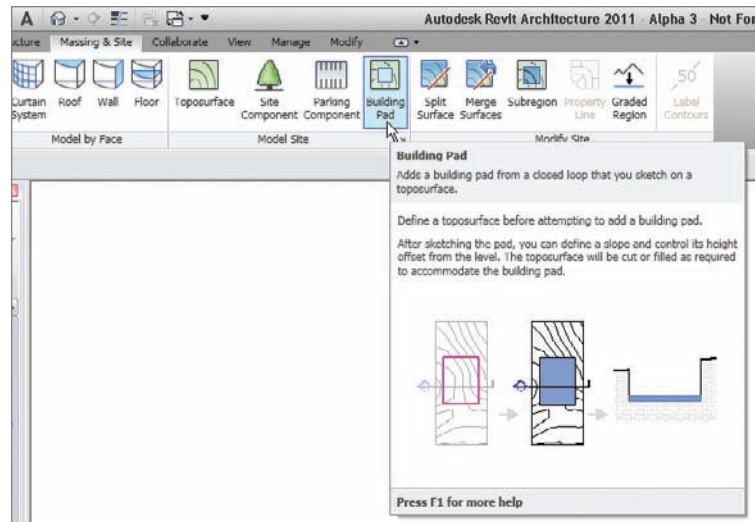

FIGURE 18.20 The Building Pad button
2. On the Massing & Site tab, click the Building Pad button, as shown in Figure 18.20.